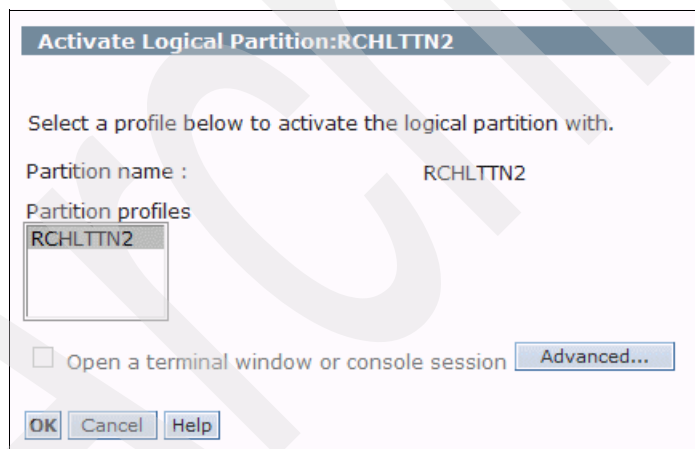

Figure 5-10 Selecting the profile for activation
2. In the Activate Logical Partition window (Figure 5-10), select the partition profile to be used and click **OK**.